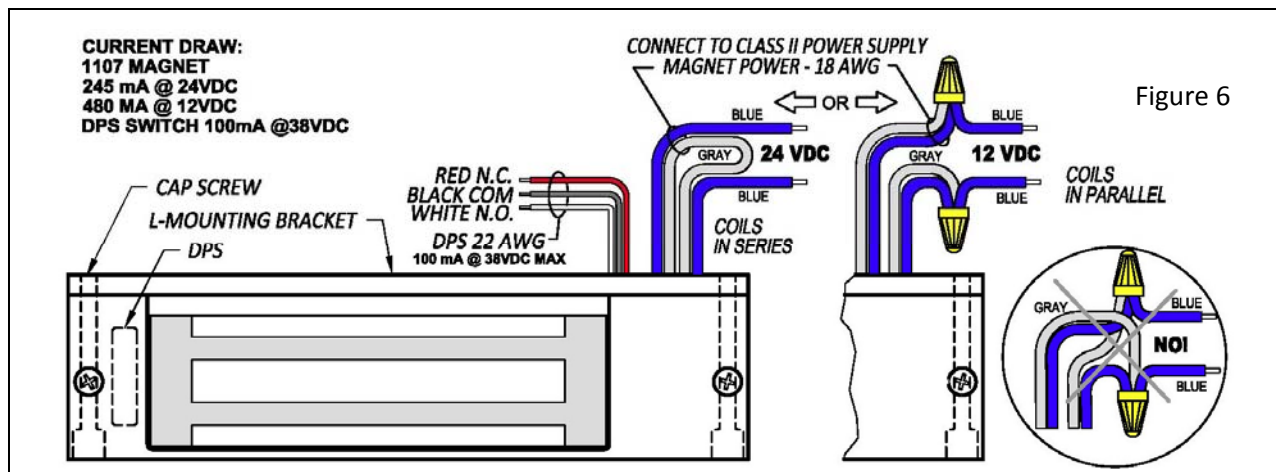

Figure 6
Make all electrical connections per figure 6 below. Attach the electro-magnet to the mounting plate using the (2) 1/4" cap screws and split washers, **do not over tighten the cap screws they will need to be removed for final adjustment.** With the electro-magnet energized and the armature fully engaged, position the Lock so that the door is snug against stops mark the position of the lock mounting plate; then **Turn the system off.** Remove the (2) 1/4" cap screws, remove the electro-magnet and fully tighten the (4) screws that hold the lock mounting plate to the header. Using the (2) 3/16" dia. holes in the mounting plate as a physical template prepare the frame for the (2) locking screws. Drill .159 dia. Holes (No. 21 drill) and tap frame for No. 10-32 machine screws, or drill two 11/64" dia. in the frame for No. 10 sheet metal screws. Secure mounting plate with #10 screws and lock washers. **The use of the # 10 locking screws is important.** They provide resistance to shear and rotation, and assure that maximum holding force is developed.
The 1107 electro-magnetic lock should be connected to a Class 2 power supply. Leads are connected in series for 24 volt operation (as shipped from the factory) or connected in parallel for 12 volt operation. **For 12 volt operation**, cut the gray wire to make 2 equal lengths, strip back the insulation 3/8" on each lead and connect each gray wire end to the closer blue wire end – see Figure 6 below. **Note: For 12 VDC (parallel coils) the gray wire must be connected to the adjacent blue wire or the magnetic bond will be significantly reduced.**